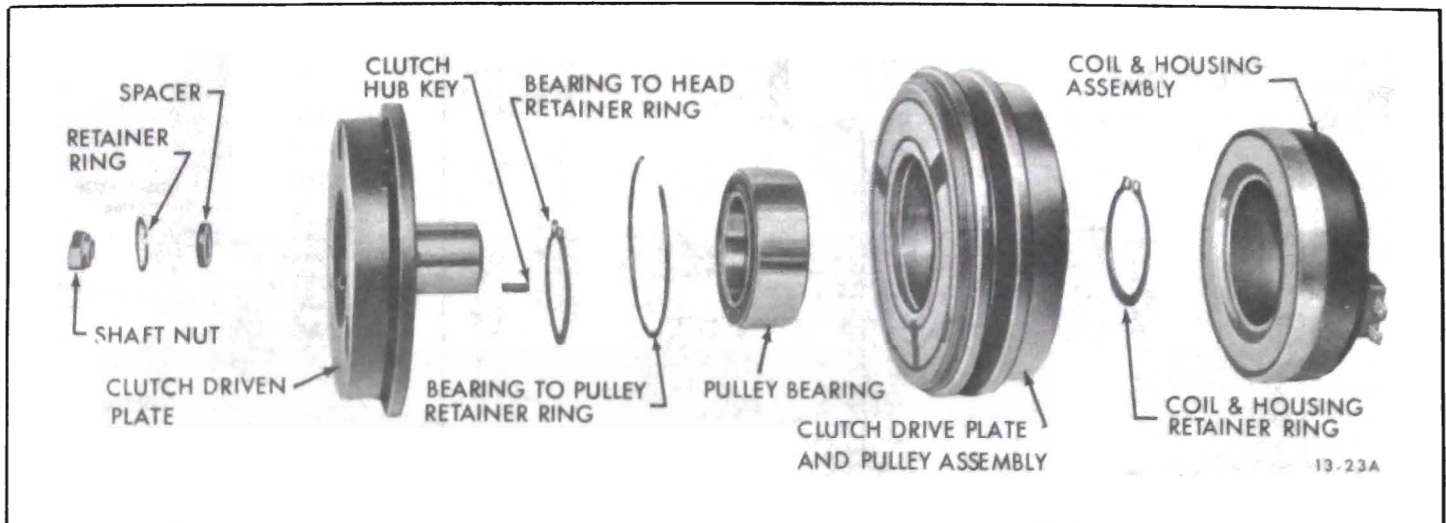

Figure 13-34 Magnetic Clutch and Pulley Assembly
12. Magnetic Clutch and Pulley Assembly - The magnetic clutch and pulley assembly (see Figure 13-34) together transmit power from the engine crankshaft to the compressor. The magnetic clutch is actuated when the air conditioning clutch compressor switch and the fan switch located on the instrument panel control assembly are closed. When the switches are closed, the coil sets up a magnetic field and attracts the armature plate (movable element of the clutch driven plate). The armature plate portion of the clutch driven plate moves forward and contacts the friction surface of the pulley assembly, thereby mechanically linking the compressor to the engine. The compressor will operate continuously whenever the air conditioner clutch compressor switch and the fan switch are closed. When one or both of the switches are open the armature plate will be released due to spring tension and move away from the pulley assembly. This allows the pulley to rotate without driving the shaft. It should be noted that if the air conditioner system was in use when the engine was turned off, the armature plate may remain in contact with the pulley due to residual magnetism. When the engine is started the armature plate will separate from the pulley assembly. The coil is rated at 3.85 ohms (85°F.) and will draw 3.2 amperes at 12 volts D.C.